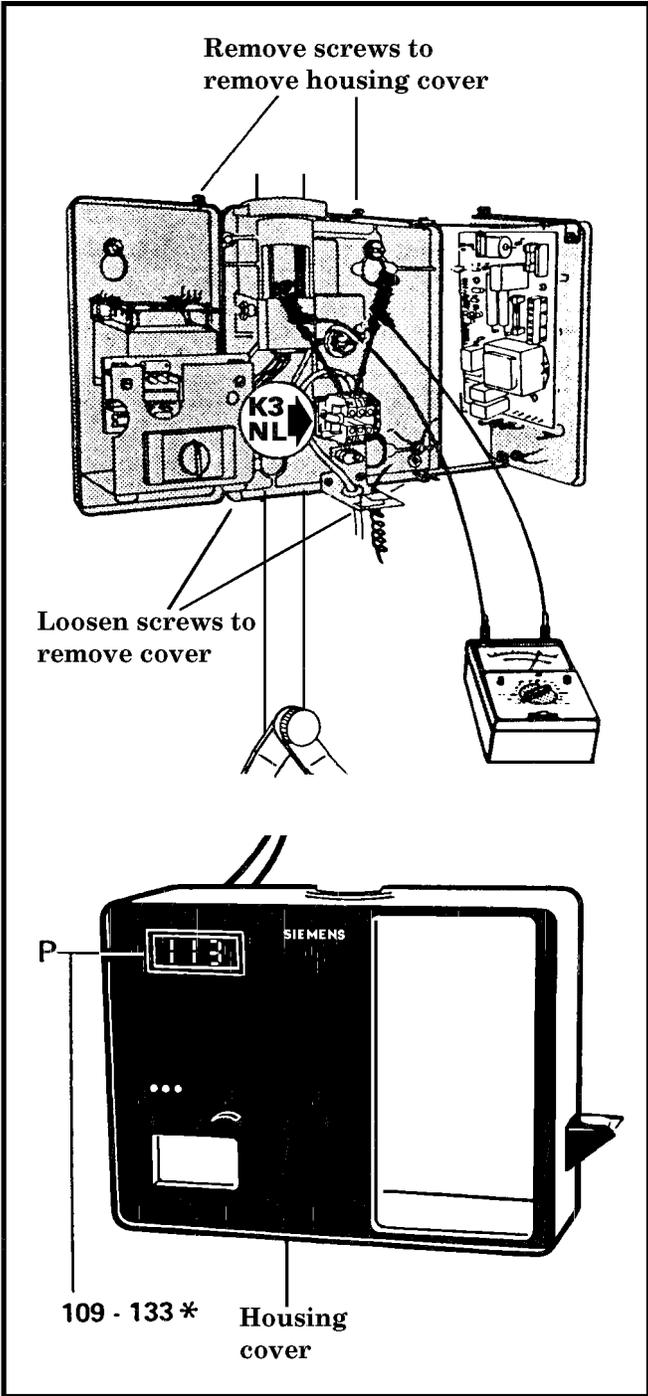

Figure 3-13
(1) Remove the two screws on top of the front cover. (See Figure 3-13.)
(2) Remove the two screws on the bottom of the front. (See Figure 3-13.)
c. Connect the multimeter leads to terminals K3 and NL. (See Figure 3-13.)